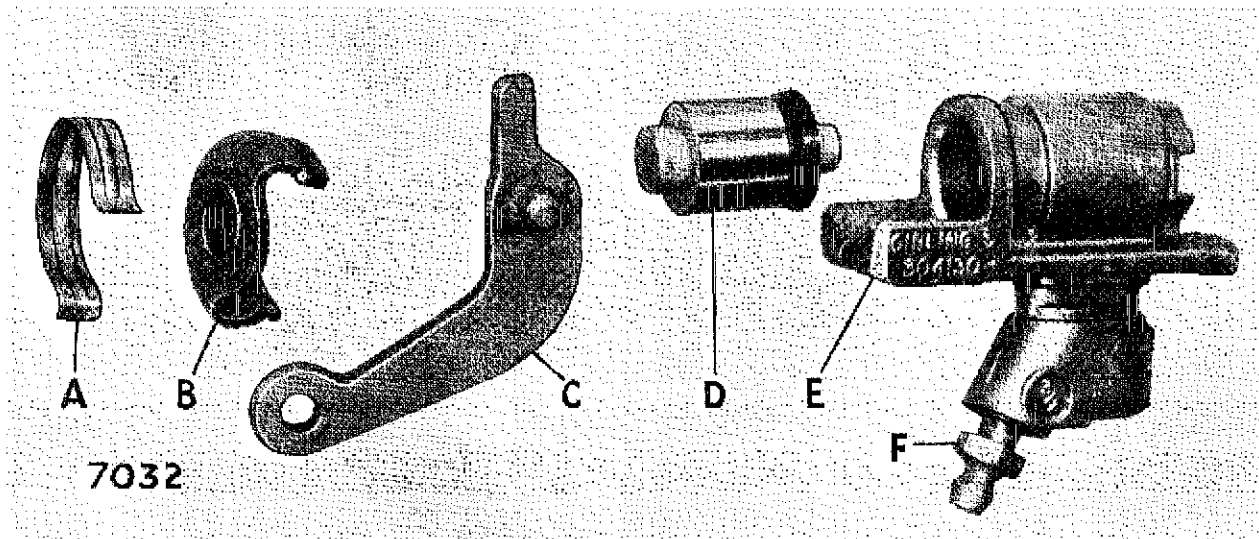

Fig. 8. Exploded view of rear brake cylinder
REAR WHEEL CYLINDERS (See Fig. 8)
- To dismantle and reassemble (See Fig. 8)**